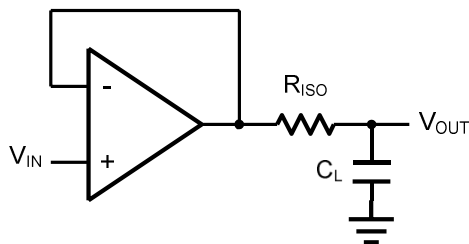
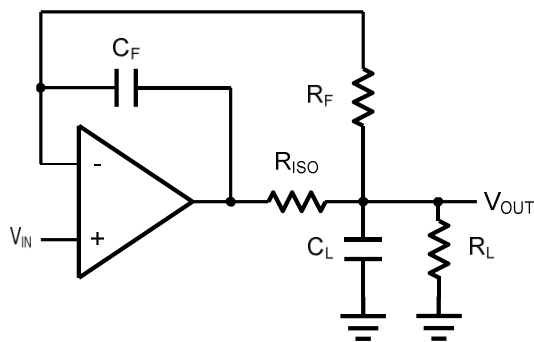

Figure 2 Indirectly Driving a Capacitive Load Using Isolation Resistor
Figure 3. Indirectly Driving a Capacitive Load with DC Accuracy
The MCP6001 family is optimized for bandwidth and speed, not for driving capacitive loads. Output capacitance will create a pole in the amplifier's feedback path, leading to excessive peaking and potential oscillation. If dealing with load capacitance is a requirement of the application, the two strategies to consider are (1) using a small resistor in series with the amplifier's output and the load capacitance and (2) reducing the bandwidth of the amplifier's feedback loop by increasing the overall noise gain. Figure 2 shows a unity gain follower using the series resistor strategy. The resistor isolates the output from the capacitance and, more importantly, creates a zero in the feedback path that compensates for the pole created by the output capacitance.
The circuit in Figure 3 is an improvement to the one in Figure 2. R_F provides the DC accuracy by feed-forward the V_{IN} to R_L . C_F and R_{ISO} serve to counteract the loss of phase margin by feeding the high frequency component of the output signal back to the amplifier's inverting input, thereby preserving the phase margin in the overall feedback loop. Capacitive drive can be increased by increasing the value of C_F . This in turn will slow down the pulse response.